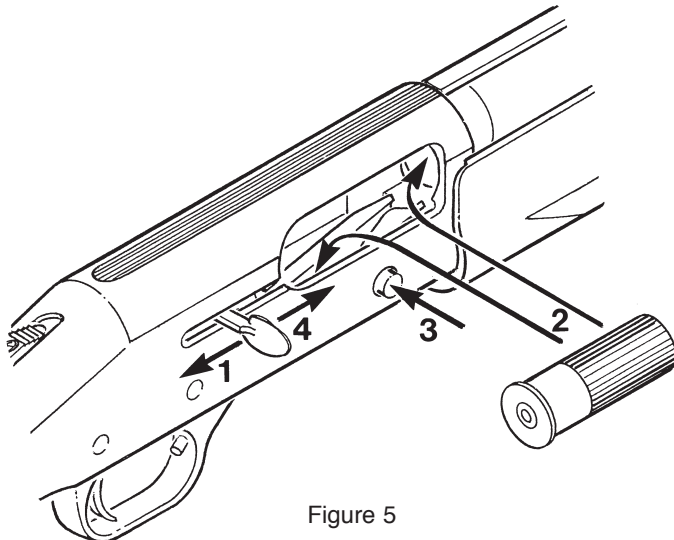

Figure 5
1. Open the action by pulling the operating handle completely rearward until it locks in the open position. (Figure 5)
2. Load the first cartridge through the ejection port located on the right side of the receiver. The cartridge can be inserted directly into the chamber or placed on top of the elevator (Figure 5).
3. With the safety button fully rearward in the "ON" (SAFE) position, and the muzzle pointed in a safe direction, press the bolt release until the action releases (Figure 5).